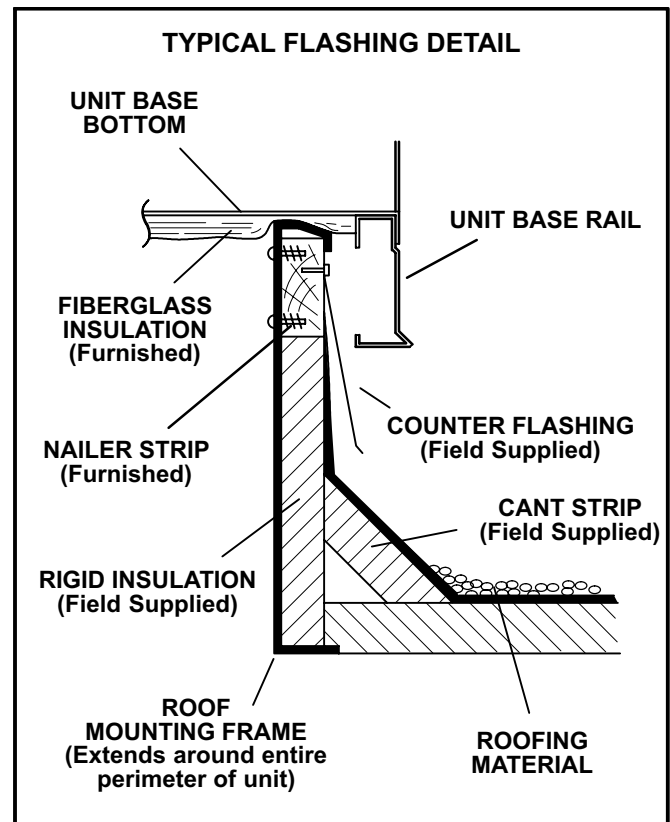

FIGURE 6
- 2- Counter-flash and seal around frame as shown in figure 6.